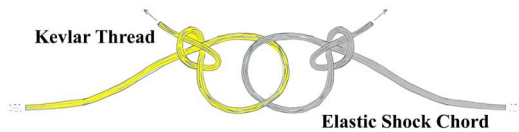

Figure 9
- **Step 18** Loosen the free end of the Kevlar thread and push the thread back through the motor mount, through the body tube, and out the top end. Tie a slip-knot loop in the free end, as close to the end of the thread as possible. Push one end of the elastic shock chord through this loop, as shown, and tie a slip-knot loop in it. See Fig. 9. Pull the two knots tightly together, and coat the knots with thinned glue. Allow to dry.